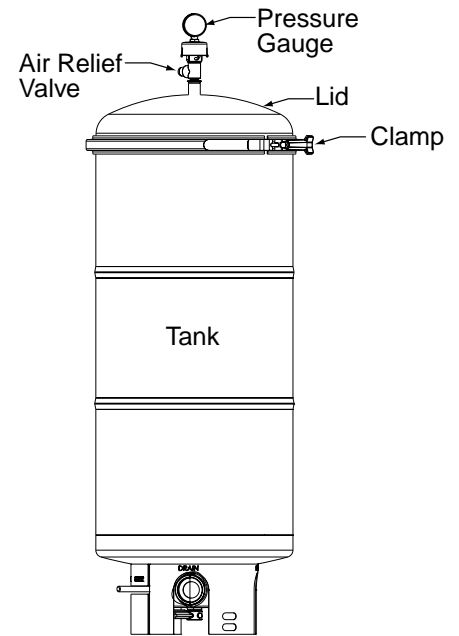

Figure 4.
2. Open the air relief valve and wait for tank water to drain into pool. See Figure 4.